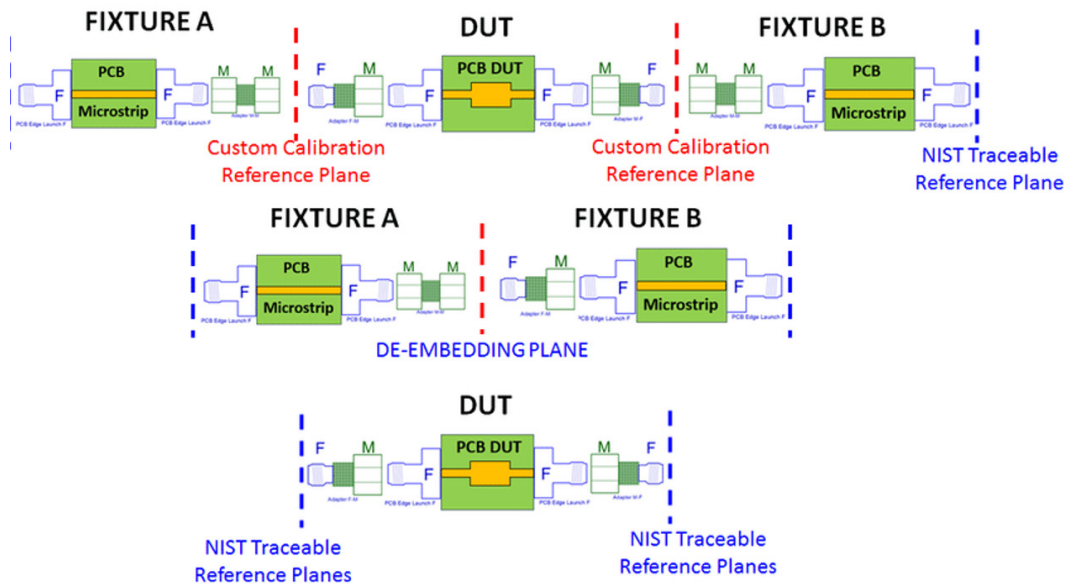

Figure 16: De-embedding algorithm verification concept for a 2X Thru de-embedding approach
Figure 16 shows a method for 2X Thru de-embedding algorithm verification described in IEEE Standard 370 (Standards Development Committee of the IEEE Electromagnetic Compatibility Society, 2021).
1. Connect Fixture A (with M-M connector) to Fixture B (with F-M connector) to create the 2X Thru structure (middle row of Figure 16).
5. With the 2X Thru de-embedding setup applied, measure the DUT+Fixture shown in the top row of Figure 16.